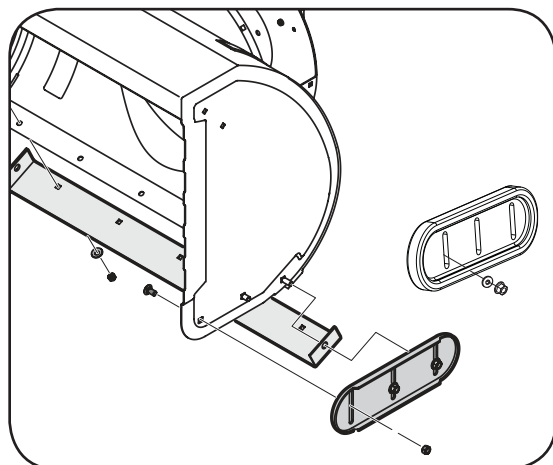

Figure 6-3
2. Reassemble new skid shoes with previously removed hardware. Refer to Figure 6-3.